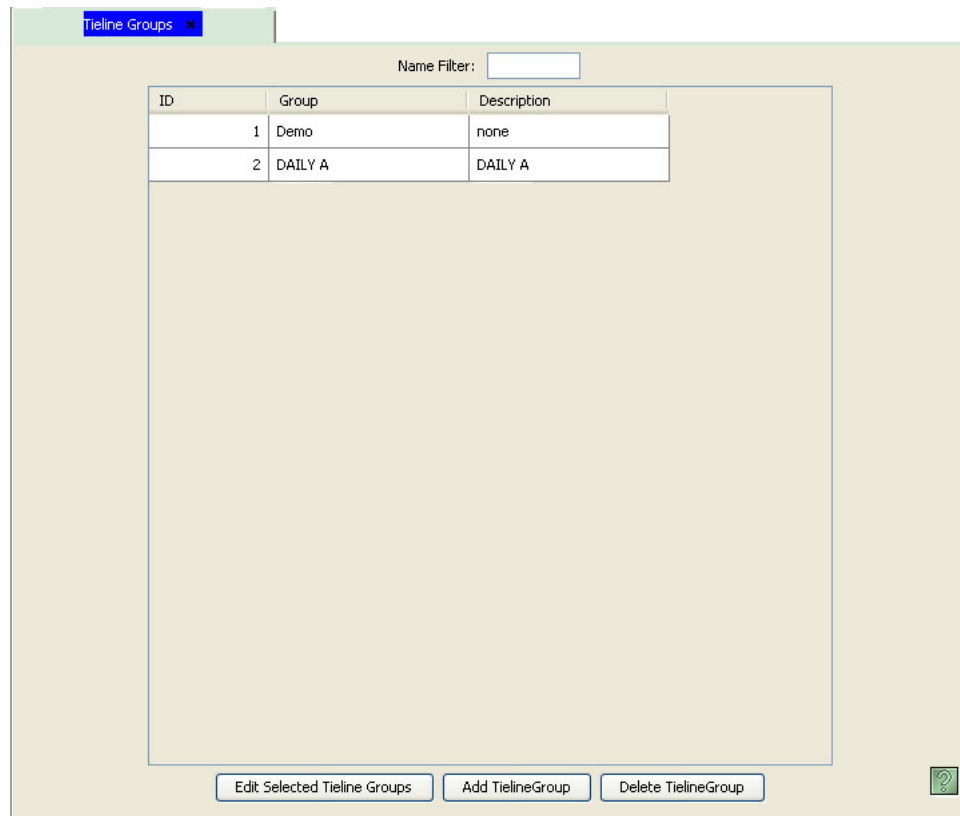

Figure 16-24. Tieline Groups Page
- 1 From the Navigation area, select the 'Configuration' pane and then 'Tieline Groups'. The 'Tieline Groups' page displays, as shown in Figure 16-24. All tielines currently defined in the system are listed.